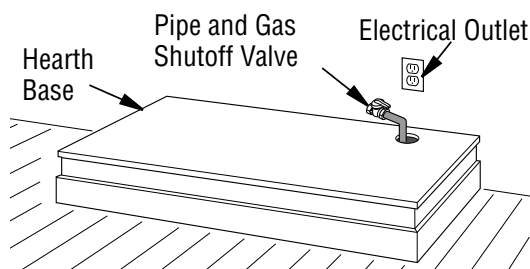

Figure 11 - Placing Hearth Base Against Wall
2. If blower is installed, install a properly grounded, 120 volt three-prong electrical outlet at fireplace location if an outlet is not there. If possible, locate outlet so cabinet mantel will cover it when installed (see **Figure 11**).
3. Place hearth base against wall at installation location. Cut an access hole in hearth base to run gas line to fireplace (see **Figure 11**). Make sure to locate access hole so cabinet mantel will cover it when installed.